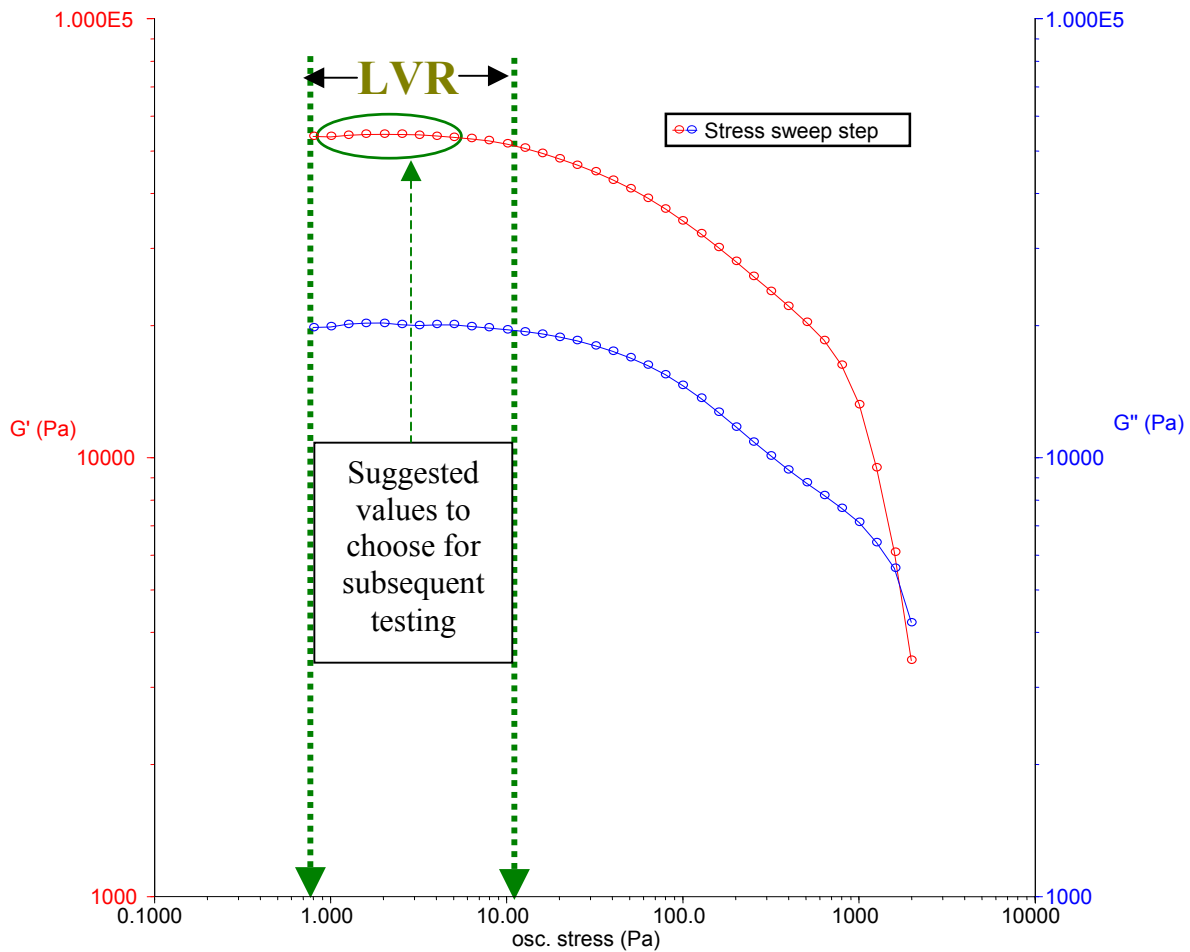

Figure 1
1. Determine Pseudo-Linear Viscoelastic Region (LVR) [Figure 1]